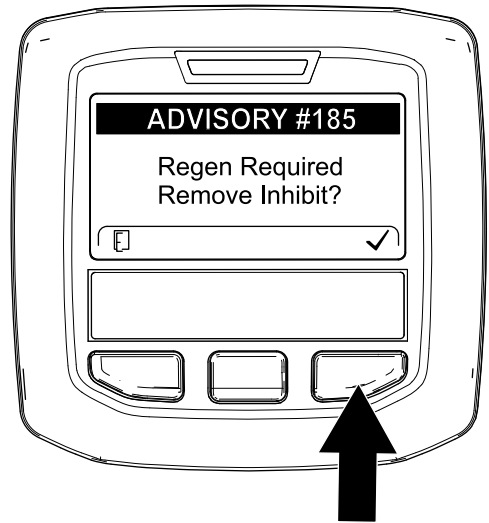

Figure 40
**Note:** If INHIBIT REGEN is set to ON, the InfoCenter displays ADVISORY #185 (Figure 40). Press button 3 to set inhibit regeneration setting to OFF and continue with the reset regeneration.